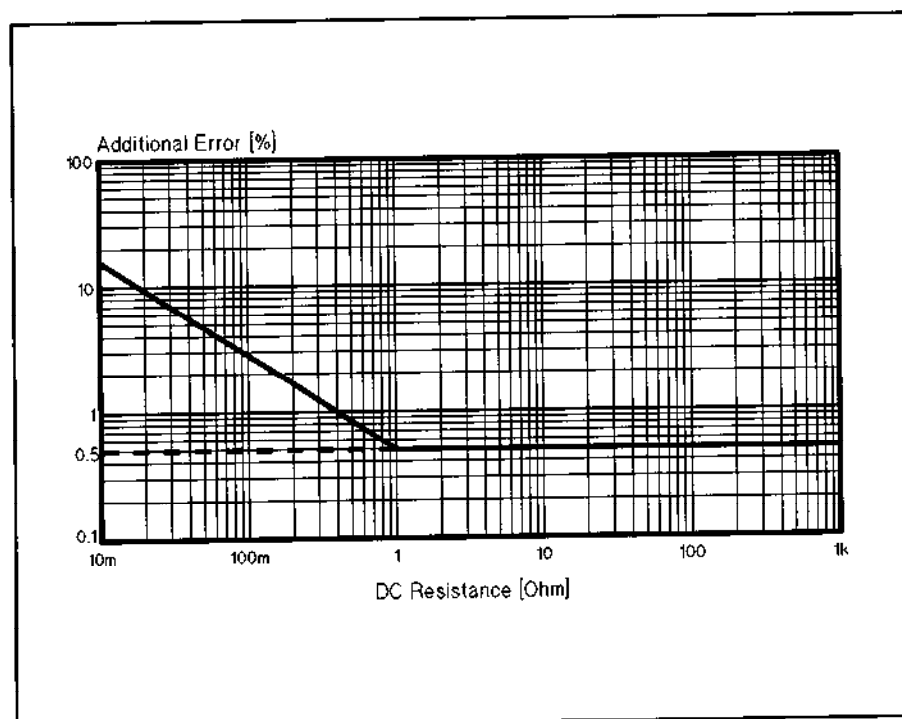

Figure 11. D.C. Resistance Additional Error
D.C. Resistance: Refer to Figure 11